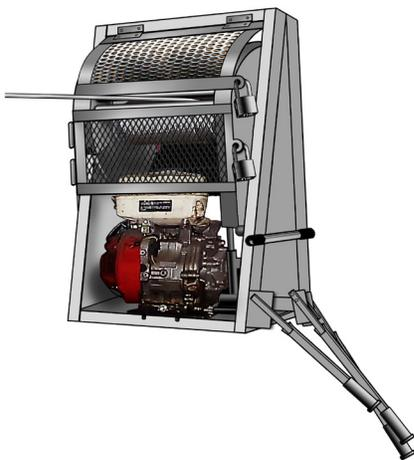

Figure 2: Guarding around the cable wire drum can be metal mesh or Plexiglas
- They must be a metal mesh or Plexiglas shield that covers the entire drum area when the machine is in operation. This will allow the operator to observe the cable as it wraps around the drum. (See Figure 2.)